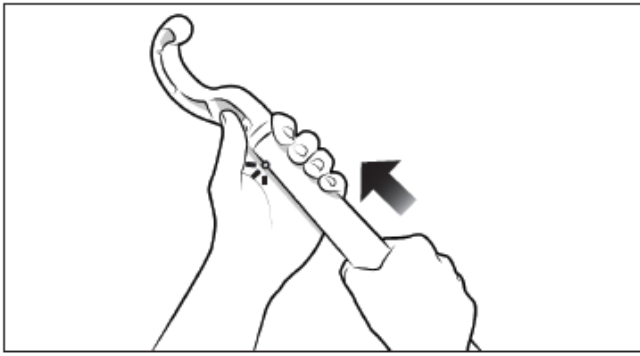

Figure 6. Removal Hook
1. Attach the hook provided to a standard pool cleaning pole (not included). (FIGURE 6)